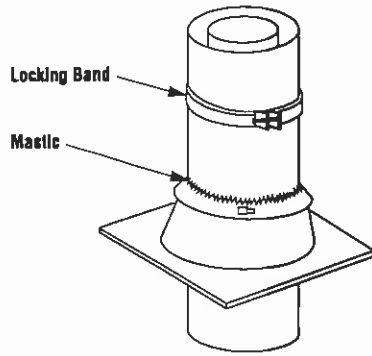

Figure 28
Step 8. The standard FireCraft FTF8 roof flashing assemblies include a storm collar. Slide the storm collar over outer chimney, rest on flashing spacers and align with top surface of flashing. Insert tab in slot, pull tight and bend tab back over slot. Seal storm collar to outer chimney with roof caulking or mastic around entire circumference of pipe. Also add extra roof caulking to the tab/slot area to seal completely against water penetration (see Figure 28). Check all joints very carefully to ensure no water intrusion can take place.